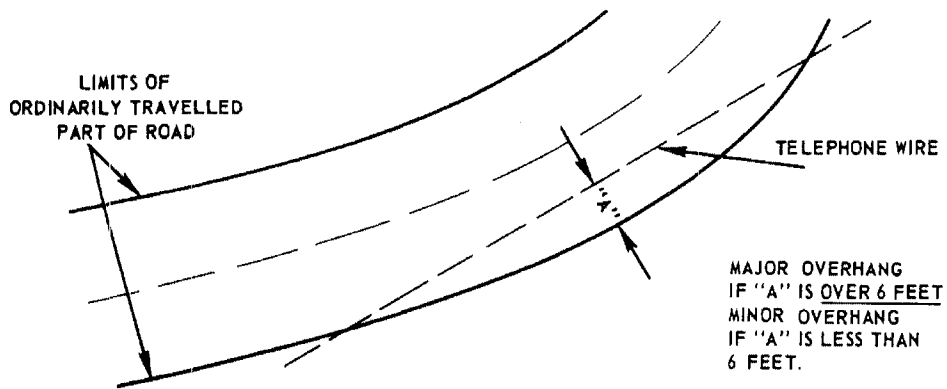

Fig. 4
1.06 Clearance requirements for drop wire overhanging the traveled part of roads vary somewhat with the degree of overhang involved. (See tables in Part 2 and Fig. 4.) Eliminating or reducing road overhang will frequently permit smaller ground clearances.
Minor Overhang	Fig. 4